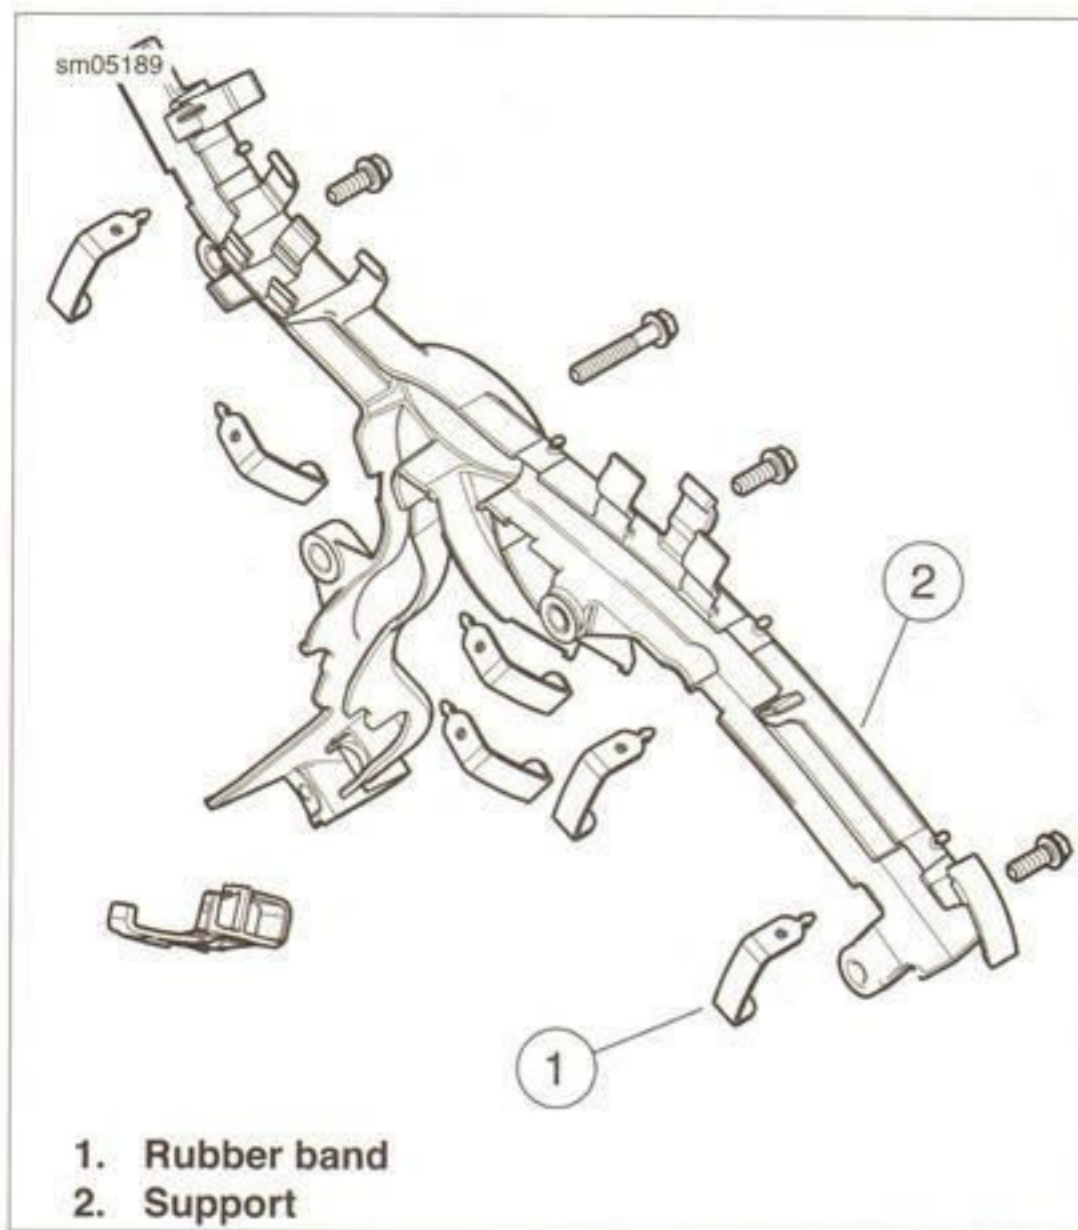

Figure 7-110. Engine Wire Harness Support
1. See Figure 7-110. Remove the rubber bands (1) from the support channel (2) and remove the wire harness.